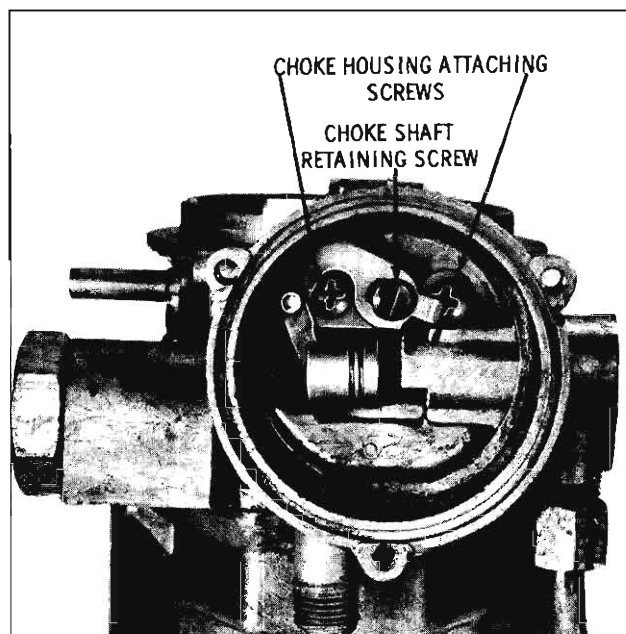

Fig. 4-109 Choke Housing Attachment
4. Remove choke piston and lever assembly from inside choke housing by removing lever attaching screw from center of choke shaft. (Fig. 4-109)
6. Remove two choke housing attaching screws inside choke housing, then remove choke housing from the air horn. (Fig. 4-109)